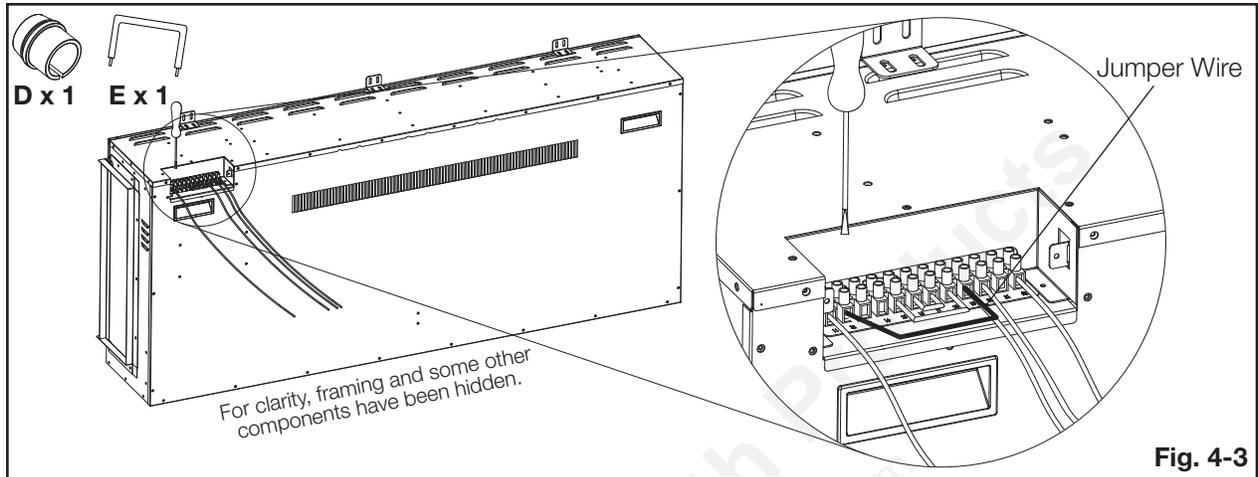

Fig. 4-3
3. Insert line 2 into terminal 20 and line 1 into terminal 19 with the jumper wire (supplied) over to terminal 12 (**Fig. 4-3 and 4-4**).